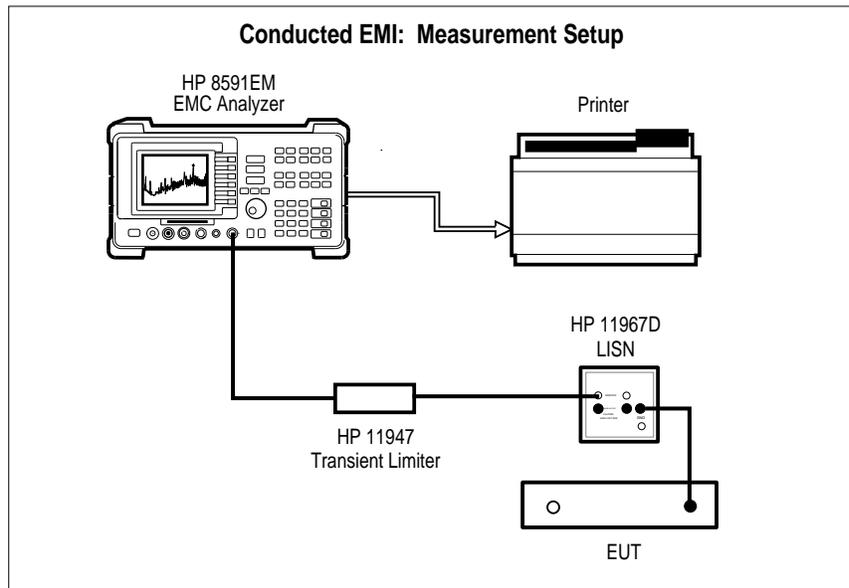

Figure 4. Conducted measurements interconnection.
1. Interconnect the EMC analyzer, limiter, LISN, and EUT as shown in Figure 4 (printer is optional).